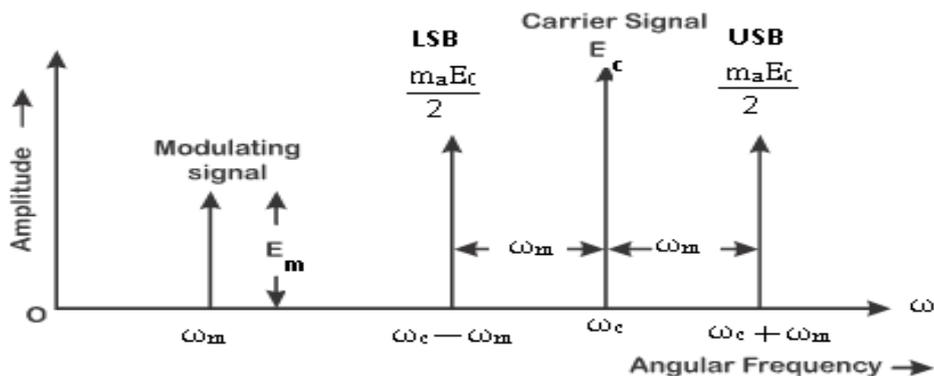

Fig. 2.4 Frequency Spectrum of AM
Fig 2.4 shows the frequency spectrum of an AM DSBFC wave with reference to frequency f_m .
Fig 2.4 shows the frequency spectrum of AM with reference to frequency.
- ❖ It is seen from the above Fig 2.4 that AM signal shifts the frequency of the intelligence from audio level f_m to carrier level f_c .